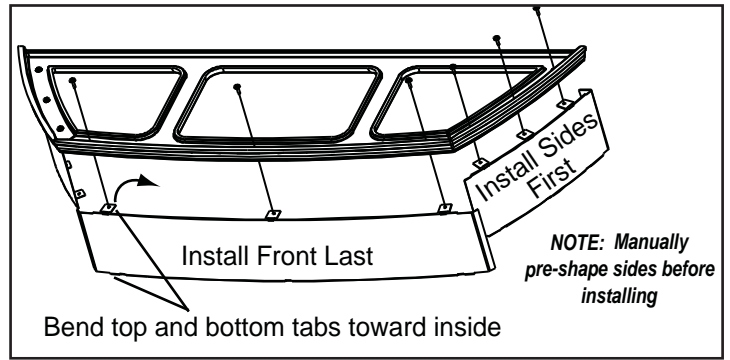

Figure 20.3
**NOTE:** 3/8 inch (9.5mm) thick tile or like material can be cut to size and fit under lip of top trim edge for a decorative touch. **Figure 20.3.**
4. Lay 1 cast ring face up, which will become the bottom ring when installed. Attach the 2 sides FIRST and then the front piece. **Figure 20.3.**